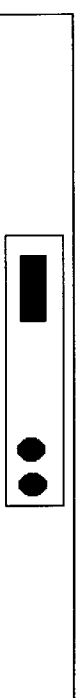

Figure 2
- External earphone/microphone connector(as seen in Figure 2)